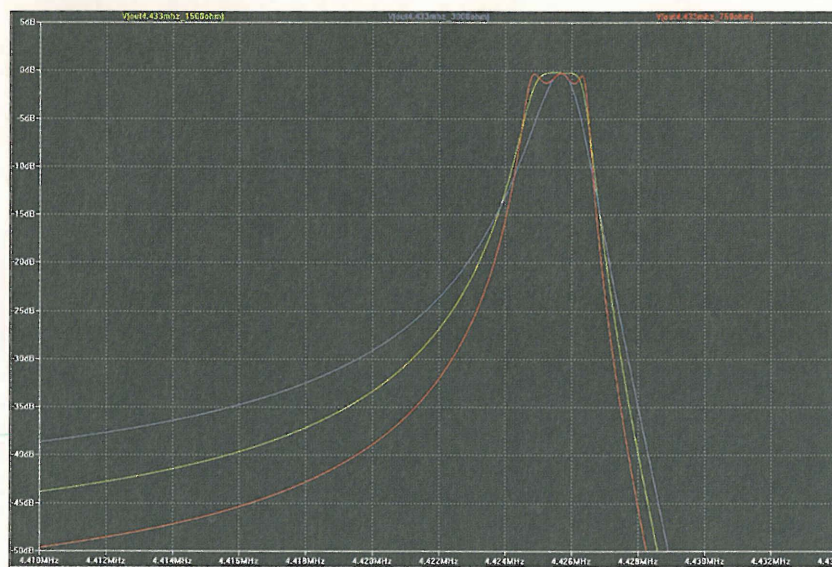

**Figure 4:** SWCAD III schematic of three crystal 4.433MHz SSB Cohn-type filter. Three filters shown, each driven and terminated by a different resistance
**Figure 4** shows the SWCAD III schematic of the filter from **Figure 1**. There are three versions of the filter, each identical except for the drive and termination resistors. I wanted to investigate the effect on the response of the filter of driving and
The “.ac lin 400000 4Meg 5Meg” line in Figure 4 means “generate an AC sweep of 400000 linearly-spaced frequencies from 4MHz to 5MHz”. On the voltage source symbol, V1 is its circuit designation